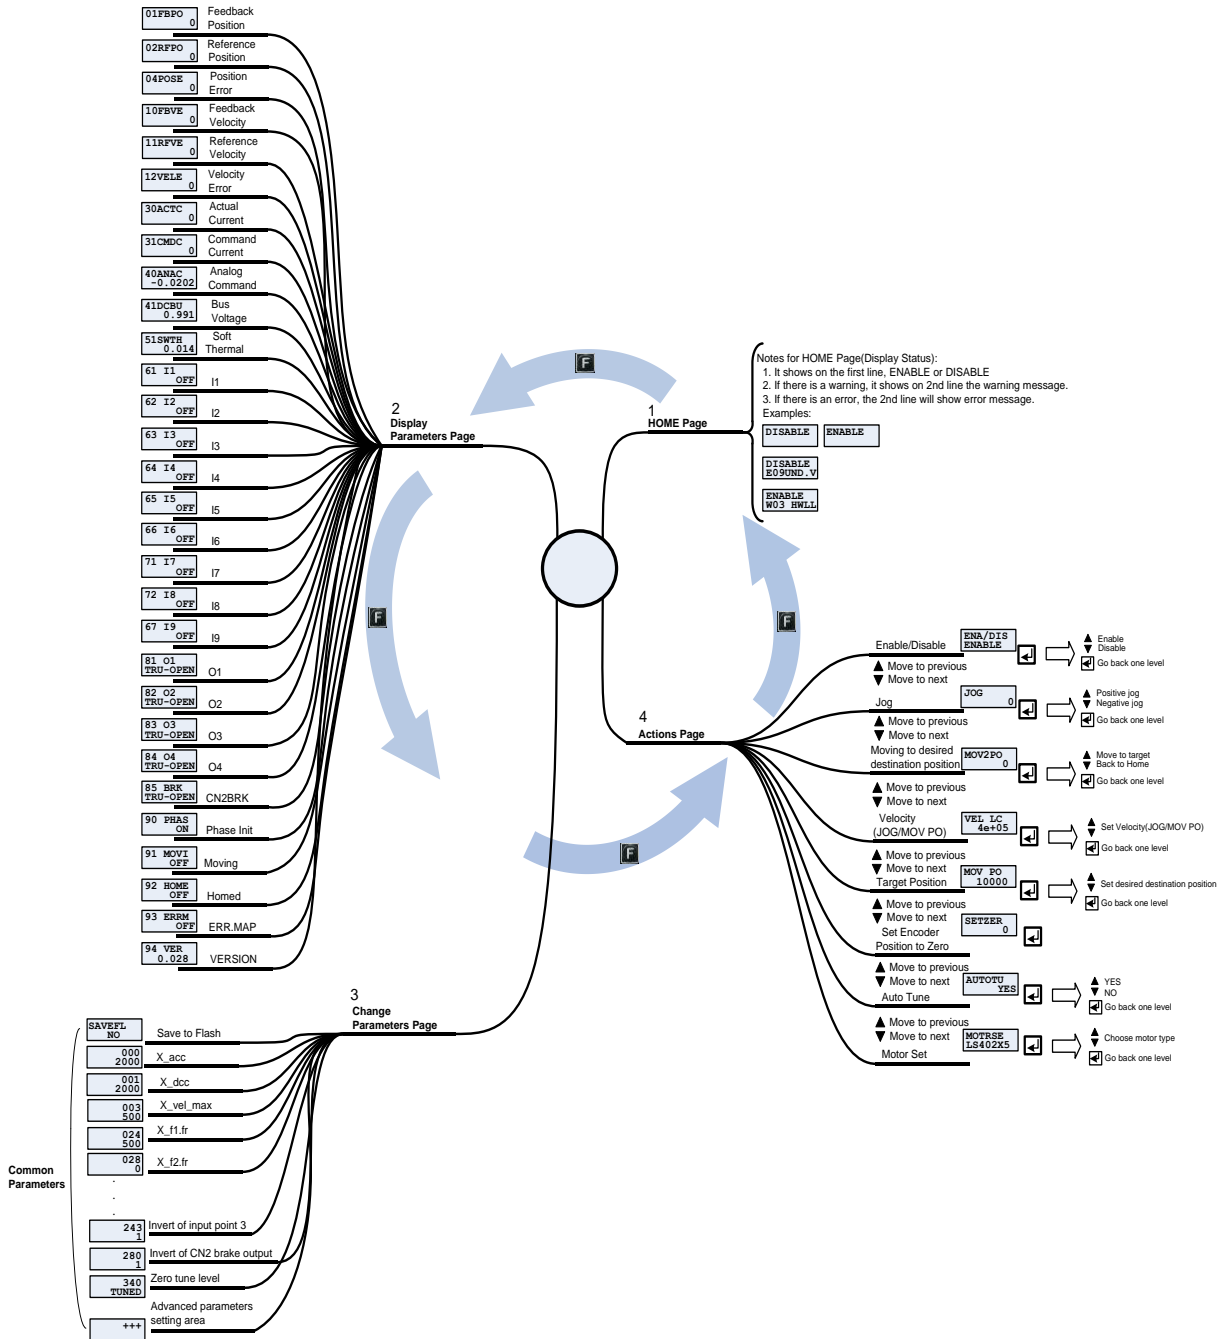

Figure7.1.2.1 Overall LCD operation structure
There are four modes on the display panel: home page, display parameters page, change parameters page, and actions page. Press the F key to switch to other mode. The overall structure of LCD is shown in figure 7.1.2.1.
- (1) Press the Enter key to set motor model (“MOTRSE”), and then press the Up key or Down key to select the motor model name connected to the drive. This example is “LS402XX5”. If the 9-th bit of motor model name is 4 or 6, it uses the serial encoder and the motor model name is unnecessary to be selected. Press the Enter key to confirm the motor model name.
- (2) The LCD screen changes to the gain setting page of “ZeroTune” (“ZT”). Servo loop gains can be easily set without complex procedures via “ZeroTune”. Only by selecting the load level of motor, the well stable velocity response can be achieved. Even a beginner who has no knowledge about the servo control can easily drive a motor. Press the Enter key to enter the “ZT” setting, and then press the Up key or Down key to select the load level (“LV”). Figure 7.1.2.1 shows the reference weight corresponded to the load level. After selecting the appropriate load level, press the Enter key to confirm it.
- (3) The LCD screen moves to the setting page of operation mode (“MODE”). Press the Enter key to enter the “MODE” setting. Press the Up key or Down key to select “STNDALON”, and then press the Enter key to confirm the change of operation mode.
- (4) The LCD screen moves to the “SAVE TO FLASH” page (“SAVEFL”). Press the Enter key to enter the setting page of saving parameters to Flash, and then press the Up key or Down key to select “NO”. Press the Enter key to confirm that parameters do not be saved to Flash. Refer to Section 7.5.1 for more information.
- (5) The LCD screen moves to the home page. At this time, “SVNRDY” is displayed to indicate that the motor is not enabled yet. Now, the setting of motor parameter initialization is completed.